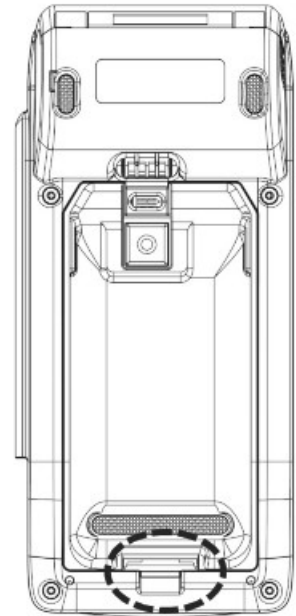

Figure 11
**STEP 2:** After install the battery and press the battery latch gently as Figure 11.